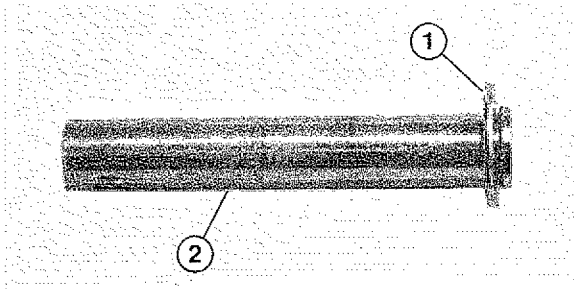

Figure 19 – Installing Wheel Axle Washer
3. Slide the wheel axle washer onto the wheel axle pin (see Figure 19).